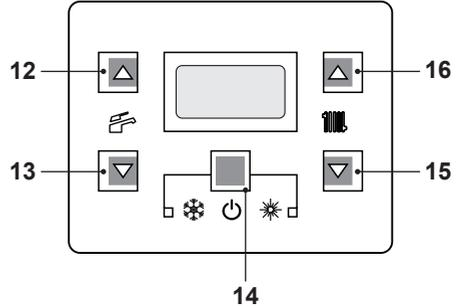
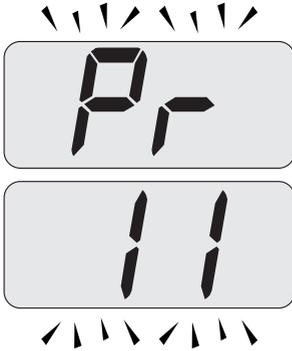
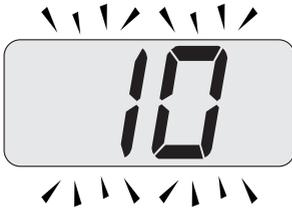

Fig. 7.24
Fig. 7.26
Fig. 7.27
- Enter in "programming mode" by pressing keys 14 - 15 - 16 (Fig. 7.24) for 10 seconds
- Scroll the various parameters using keys 15 or 16 until the letters **Pr** that alternate with code **11** are displayed on the LCD display, indicating that "parameter 11" (Fig. 7.26) has been activated.
- Press keys 14 and 16 (Fig. 7.24) at the same time until the value of parameter 11 (10=60 seconds) (Fig. 7.27) is displayed on the LCD display .
- By pressing key 14 (Fig. 7.24) confirmation of the inserted value is obtained.
- Press keys 14 and 15 (Fig. 7.24) at the same time to exit without changing the value (return to the parameters list Fig. 7.26).
- Press keys 14 - 15 - 16 (Fig. 7.24) at the same time for 10 seconds to exit the "programming mode".